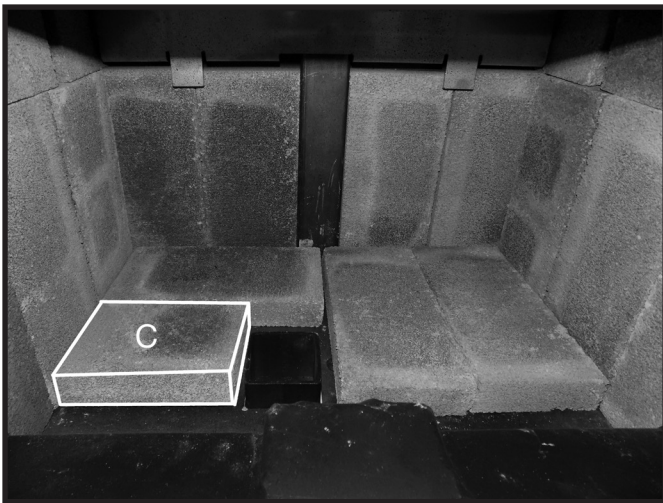

Figure 28: Fourth floor brick in place.
- Place the "C" firebrick so that it sits beside the ash dump, against the lefthand side wall and the "A" firebrick located directly behind the ash dump (Figure 28).